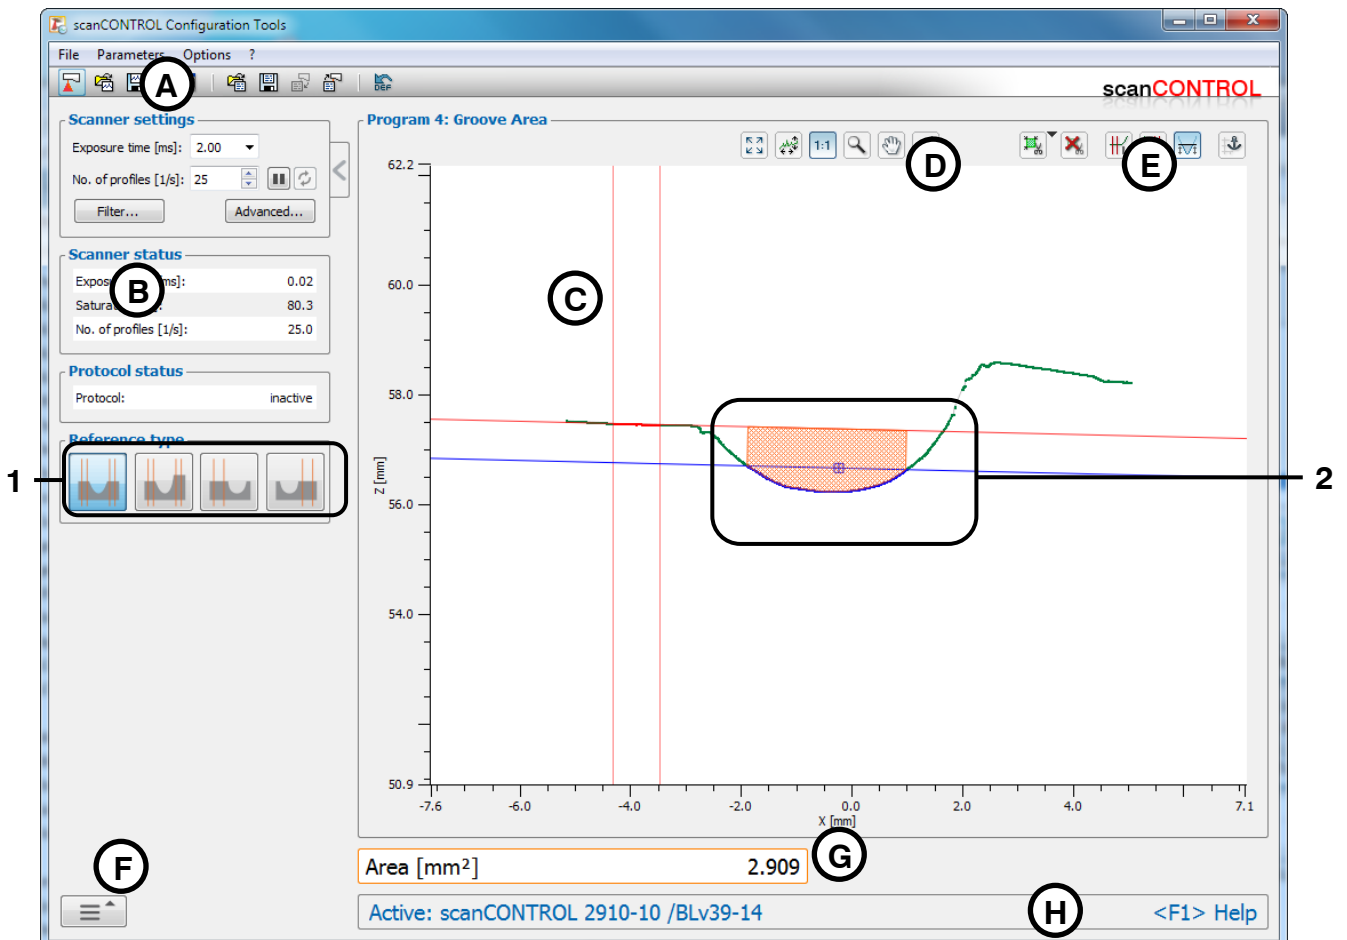

Fig. 4.34: "Groove Area" measuring program
- Define the type of the deepening (see Fig. 4.34 and Chapter 3.13.1):